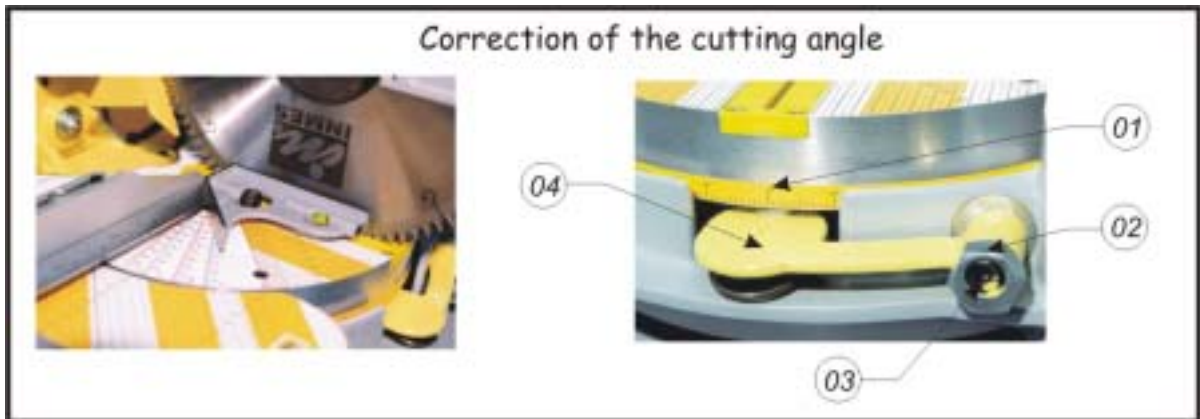

Figure 19
In case the angles are not true, you may start with the saw blade in the 0° position, to adjust the calibration you must use a precision square to guarantee a perfect alignment of the blade. When you have this tool (precision square) in hand, lower the blade, and place the back of the square placed against the fence fig. 19, and the side of the square next to the blade.
Then use your 06mm Allen, loosen the screw figure 19 (03) then use your 24mm wrench and slowly turn the adjustment screw fig 19 (02) to the left or right, until adjust the angle 90° between the saw blade and the fence of the machine.
After adjusting the angle between the blade and the fence, you must tight the screw again, fig 19 (03), using your Allen 06mm, holding the adjustable screw, figure 19 (02), with your 24mm wrench, make sure the adjustable screw do not move when tightening.